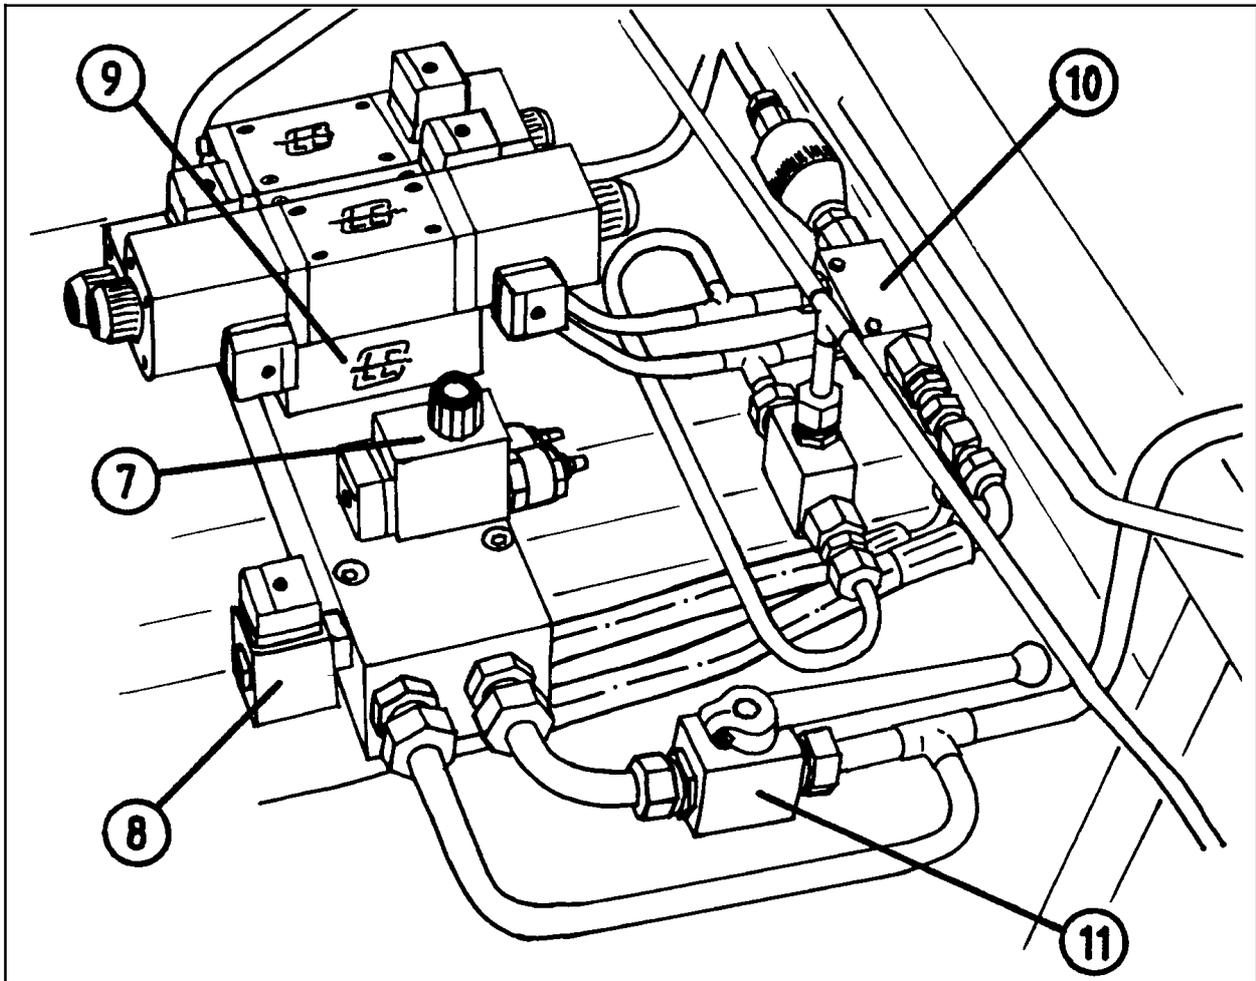
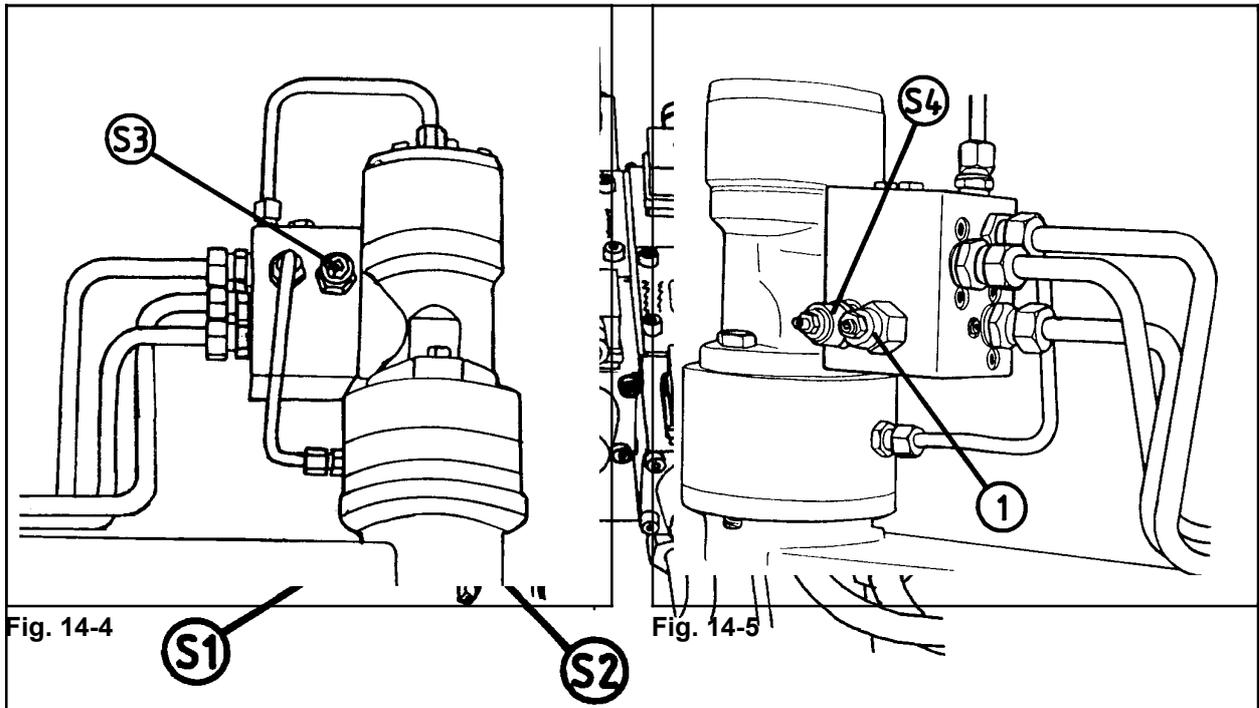

Fig. 14-1
Fig. 14-2
Most tractors have an oil pump which gives a certain quantity per revolution. Then the crane handle, (pos. 10, fig.14-1), has to be set in open position. (See chapter 4.10). If no other function is activated, the oil flows from the tractor, through the main valve block and back to the tank. When one of the functions on the control unit is operated, **THE MASTER VALVE**, (pos. 7, fig. 14-1) closes the oil flow circuit, and simultaneously the valve for the current function is opening.
The "closed centre" valve, (pos. 8, fig. 14-1), opens the oil flow into the block, and simultaneously the valve for the current function is opening.
To prevent that the oil pressure to the cutter is falling, so that it not holds the film long enough, there is a piloted non-return valve, (pos. 9, fig.14-1), underneath the magnet valve on the main block. (Pos. 1-2, fig. 14-2).
- 14.3** The hydraulic system is equipped with a safety valve, (S1), which is preset to 185 bar. It opens for the oil circuit to tank if max. pressure is exceeded. This valve is attached to the main valve block. See fig. 14-2.
At $\frac{1}{2}$ speed the magnet valve, (pos. 5, fig. 14-2), opens for oil to the wrapping arm, but it goes through a nozzle that limits the oil amount.